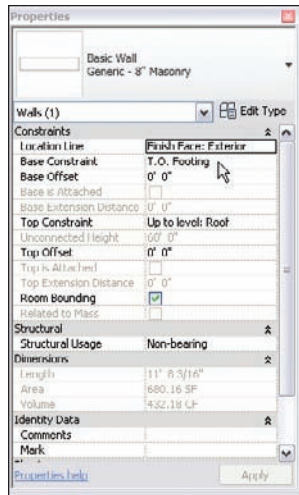

FIGURE 6.53 In the Properties dialog, change Base Constraint to T.O. Footing.
3. In the Properties dialog, under the Constraints category, set Base Constraint to T.O. Footing, as shown in Figure 6.53.